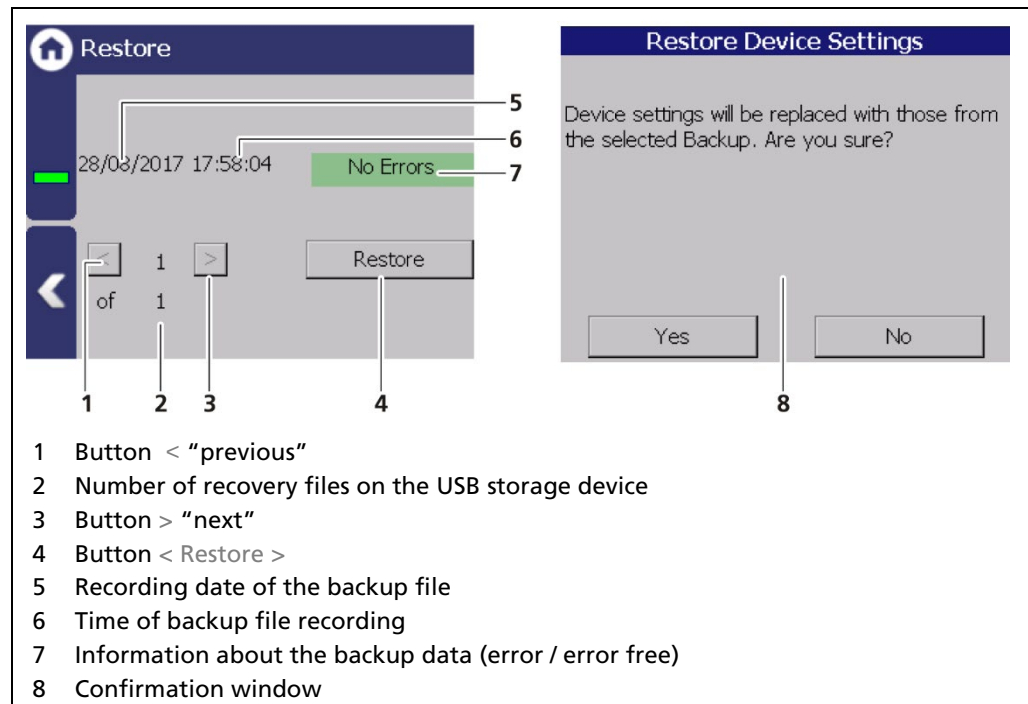

Fig. 131 Restore
2. Select the backup file with the buttons (Fig. 131, item 1,3)
- ▶ The date and time of the backup is displayed (Fig. 131, item 5, 6). Only error-free (Fig. 131, item 7) backup files can be loaded.
3. Click on the button < Restore > (Fig. 131, item 4).
4. A confirmation message (Fig. 131, item 8) appears.